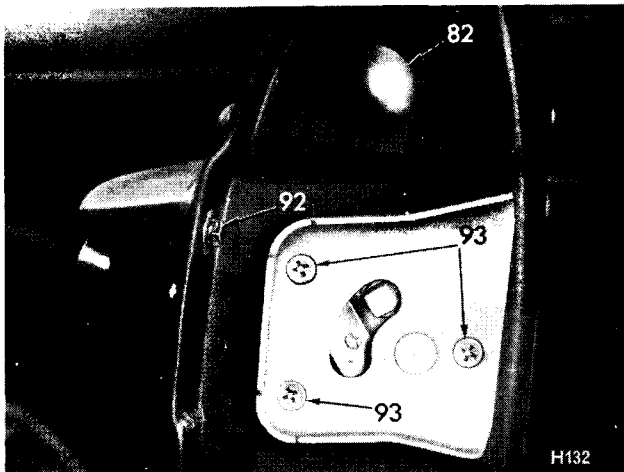

Fig. 39. Dovetail plate/lock attachment
2. Release the handle by removing two screws. One (92) is shown in Fig. 39, the other is located on the inside of the door panel at the forward end of the handle.